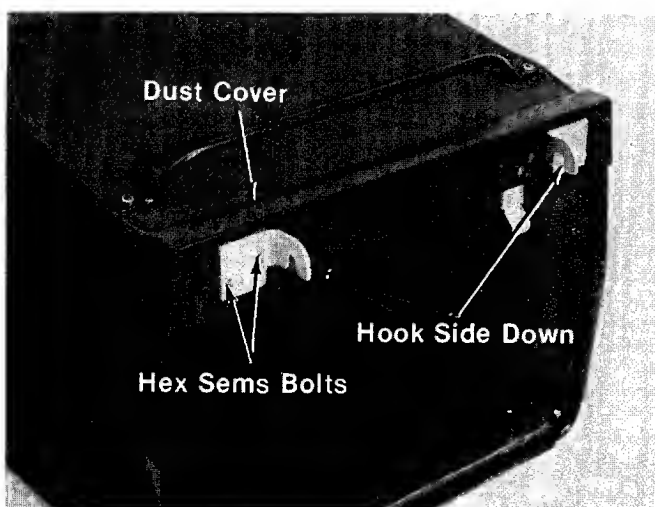

FIGURE 18.
7. Place dust cover (AF) in position on top front of catcher. Place right and left hand hinges (U) in position and secure with hex sems bolts (V), lock washers (W) and hex nuts (X). See figure 18.